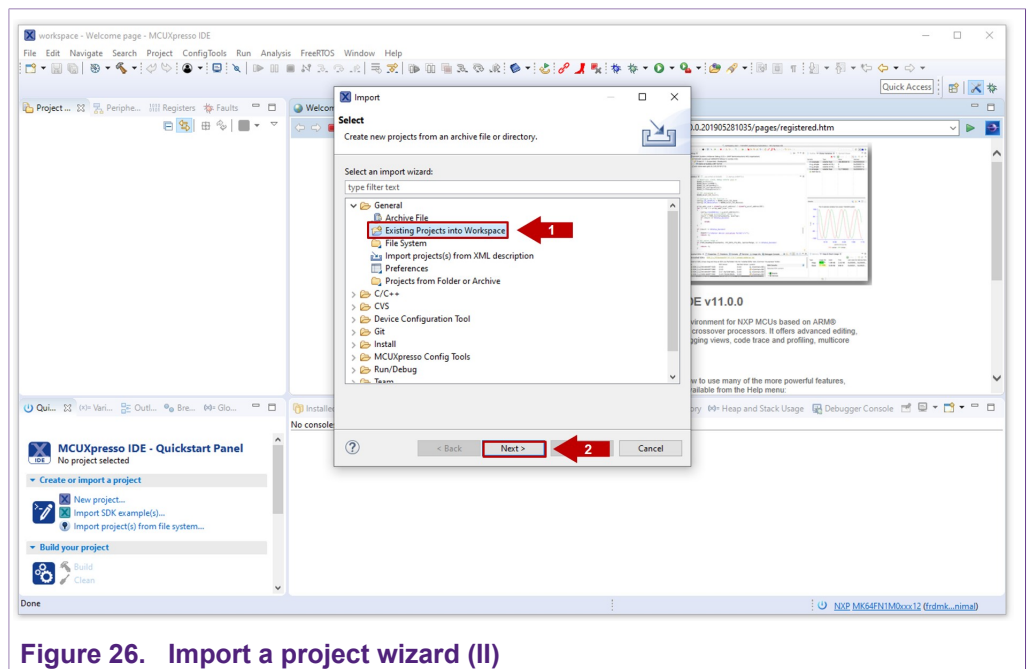

Figure 26. Import a project wizard (II)
- In the import wizard menu, select import **"Existing Projects into Workspace"** from the **General** folder as shown in Figure 26: